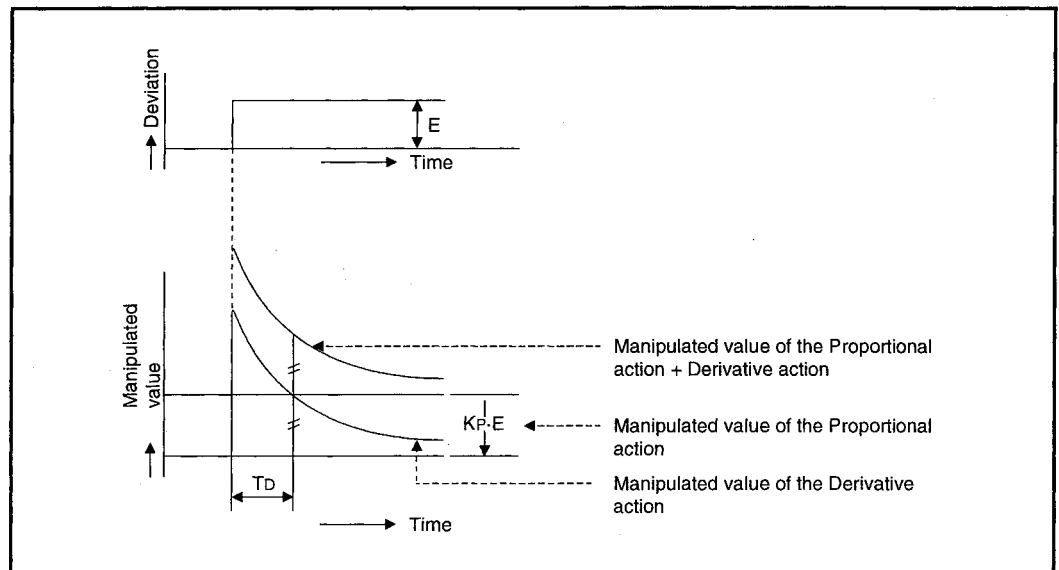

Fig. 1.9 Derivative action for step response
- (2) In the derivative action, the time from the deviation occurrence until the manipulated value of the derivative action becomes that of the proportional action is called the derivative time, and is indicated by  $T_D$ .
- (3) The derivative action for the step response when the deviation is constant is shown in Figure 1.9.
- (4) The derivative action is used as a PD action in combination with the proportional action, or PID action in combination with the proportional and integral actions: